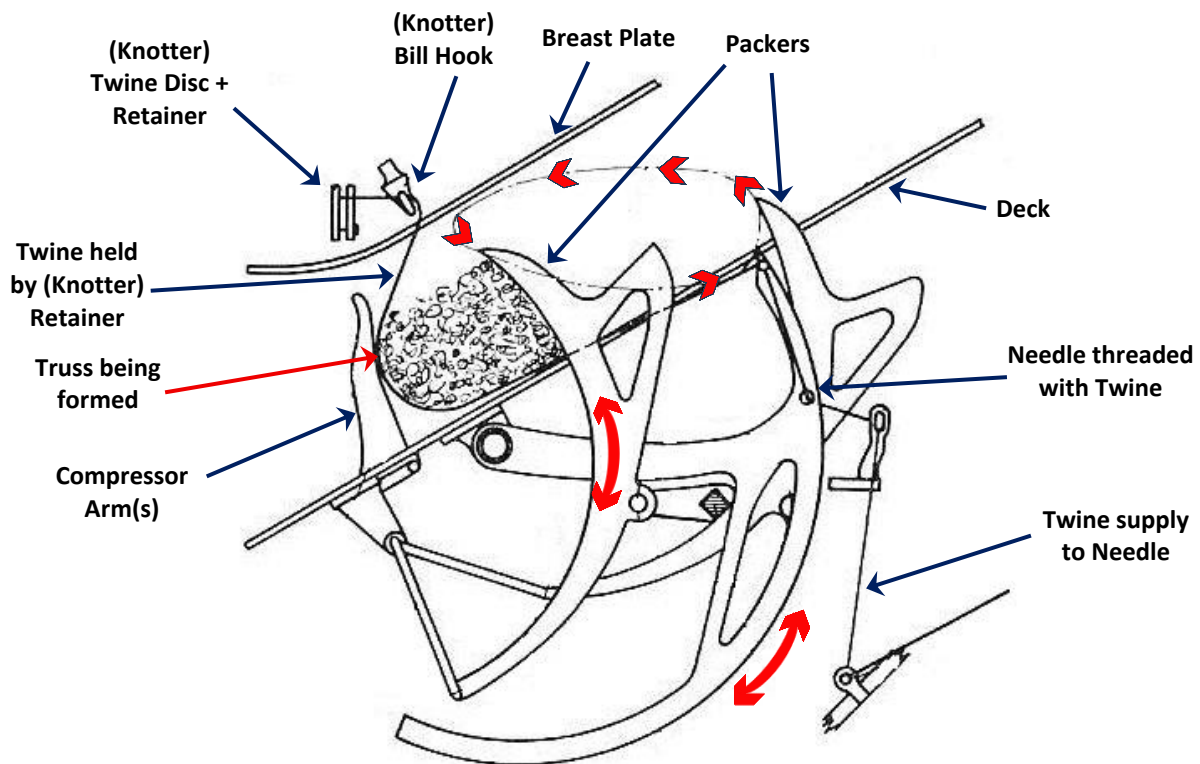

Fig.3.1 Straw Trusser – Key components (*schematic view*)
3.1 General Operation (*see Fig.3.1*)
- 1) The **Twine Disc & Retainer** holds the (*fixed*) end of the twine during truss formation, having received it from the (*retracting*) needle at the end of the previous tying cycle. The twine runs from the **Retainer** to the **Needle**, but passes over the **Bill Hook** and around the forming truss (see Fig.3.1)